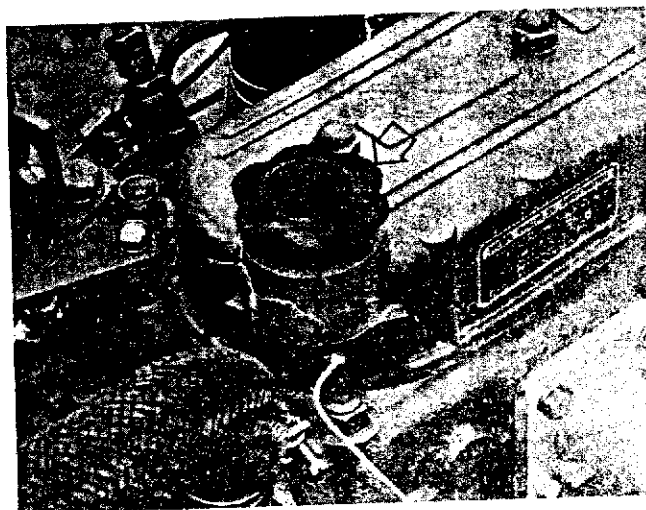

Figure 29 — Engine Oil Filler Cap
2. If the oil level is low, remove the filler cap, Figure 29, and add oil to the engine through the filler hole to bring the oil level between the marks on the dipstick. Be careful not to overfill.